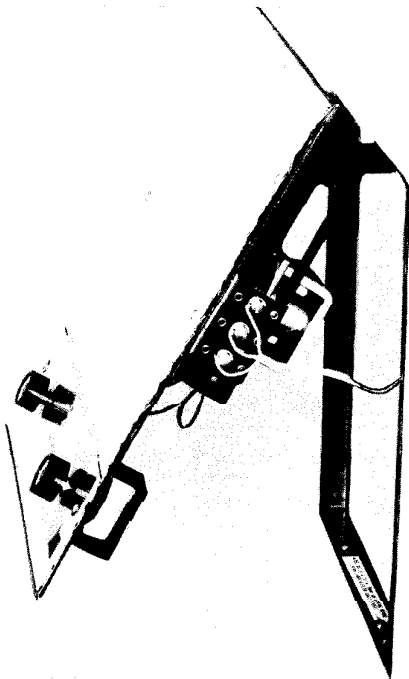
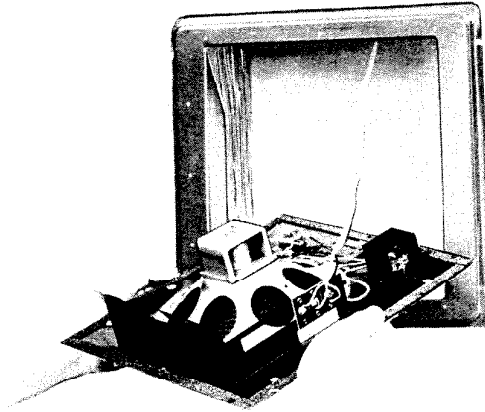

Fig. 10. Inside installation of Model 2020 remote speaker station.
Fig. 12. Outside installation of Model 200 remote speaker station.
The Model 2020 speaker may be used in both inside or outside remote-station installations. An inside installation of the Model 2020 speaker differs from that of an outside installation due to differences in construction of the required rough-in frames. The rough-in frame for inside installations allows the speaker frame to mount flush against the wall (Fig. 10). The rough-in frame for outside installations protrudes from the wall (Fig. 12). With this type of rough-in frame construction, the seal around the speaker plate is secured to all four sides of the rough-in frame, thus providing the speaker and its associated components protection from the weather.
2. Two slots are provided in the back edge of the speaker guard plate. Position these slots over studs on the rough-in frame and lock in place by sliding speaker unit to the left. This supports the speaker while both hands are left free to make connections to the speaker terminals on the speaker guard plate (Fig. 10).
3. Connect the three-conductor wire in wall frame to the speaker terminals on the speaker guard plate as follows (Fig. 10):
2. Connect the three-conductor wire in wall frame to the speaker terminals on the speaker guard plate as follows (Fig. 12):